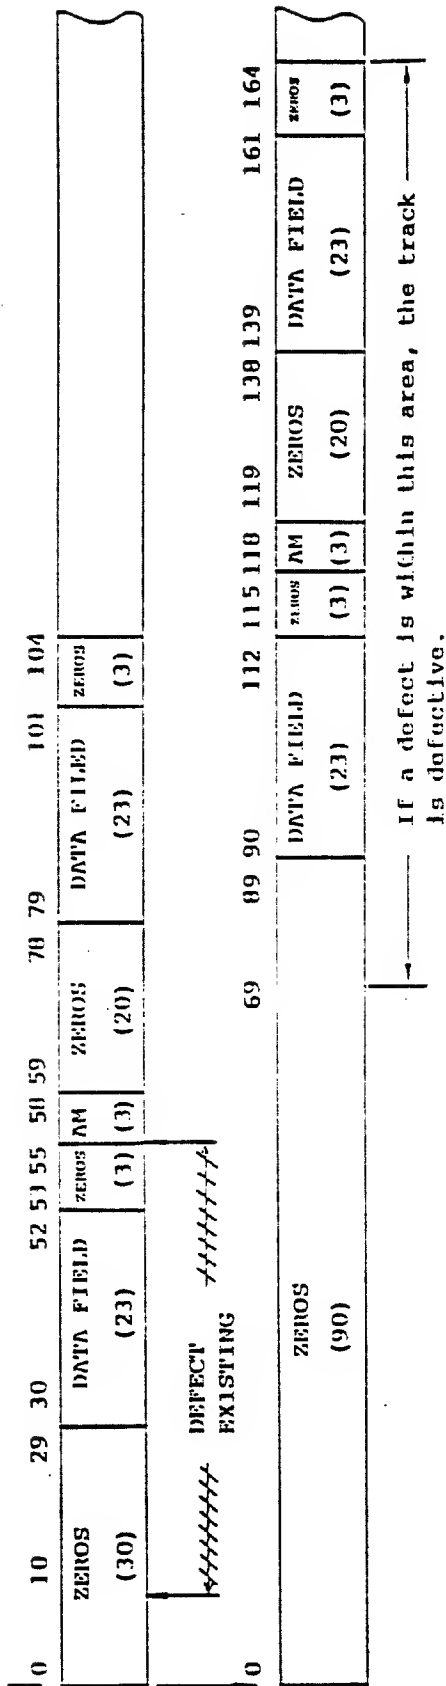

Figure 2-8 Skip Displaced Format-A
2. If the beginning of a defect is located between 15 and 56 bytes after Index, 60 bytes of zeros are added to gap 1 (90 bytes total). In this case, if any part of a defect is between bytes 70 and 165, the track is flagged defective. Refer to Figure 2-8 Format-A.